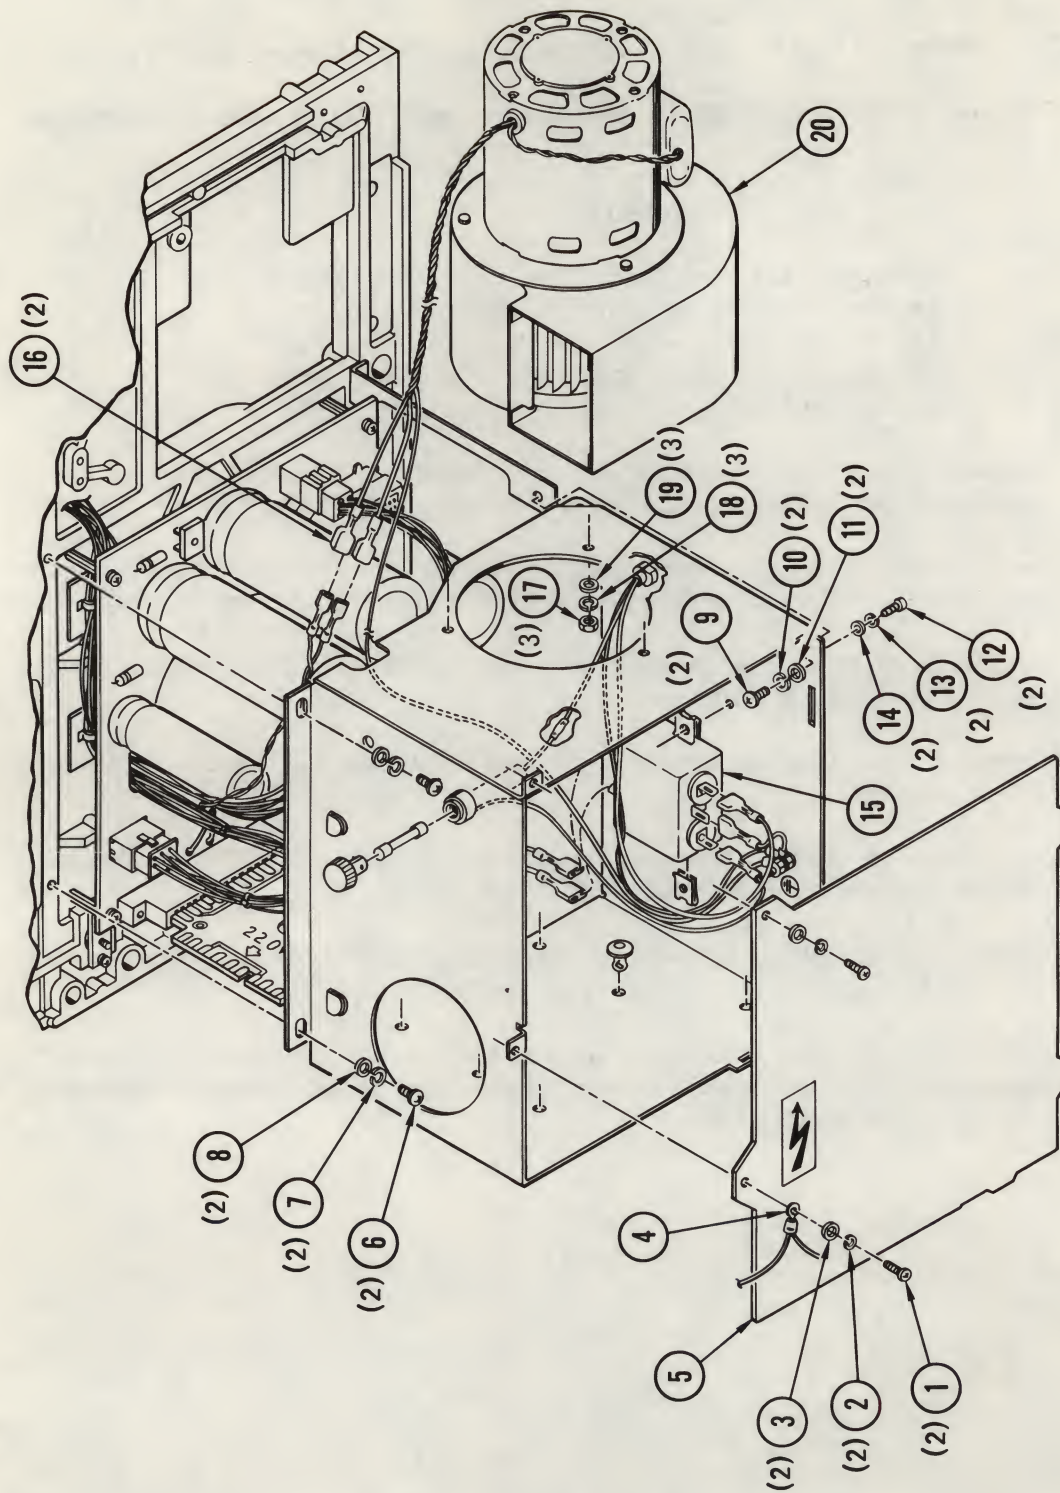

Figure 4-24. Power Supply Assembly
4-38. **Removal and Replacement (Figure 4-24).** Place the drive in service access position in accordance with instructions in paragraph 4-3 and proceed as follows:
- c. Remove screw (1, Figure 4-24), lockwasher (2), and flatwashers (3) securing ground wire terminal (4), and power supply cover (5).
- e. Remove screws (6), lockwashers (7), and flatwashers (8) securing power supply chassis to top plate.
- f. Remove screws (9), lockwashers (10), and flatwashers (11) securing chassis to rear bracket.
- g. Disconnect air pump wires (16) and terminals from EMI filter (15) noting position from which removed.
- h. If air pump assembly (20) is to be replaced, remove nuts (17), lockwashers (18), and flatwashers (19) securing air pump to chassis.